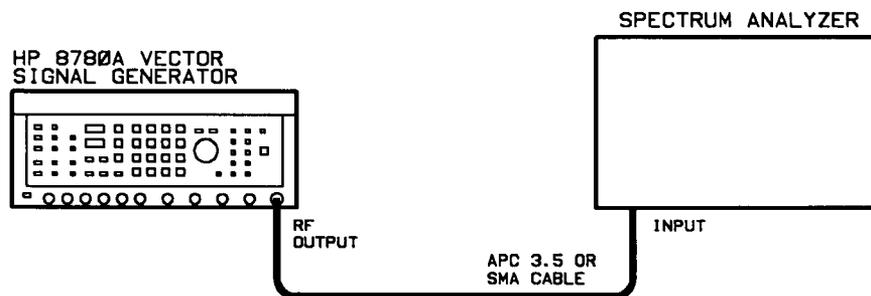

Figure 4-4. Harmonics Test Setup
2. Connect the equipment as shown in figure 4-4.